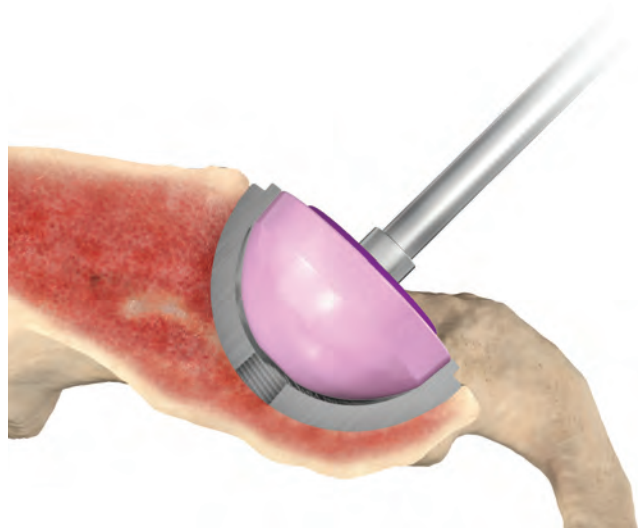

Figure 40: Verify insert alignment and impact insert
- !** Prior to final impaction, examine the insert to confirm that it is seated evenly relative to the shell face. Use an impactor with the appropriate head size for final seating of the ceramic insert. Final seating requires two to four moderate blows (Figure 40).